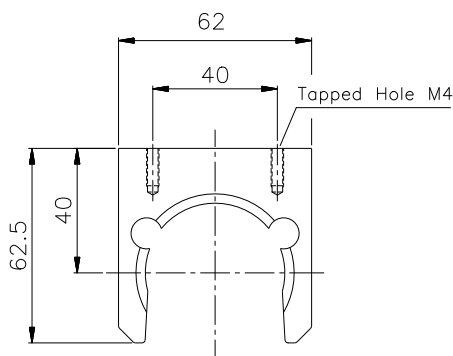

Fig. 3.2.2a
- 2 - Support ring, see fig. 3.2.2a